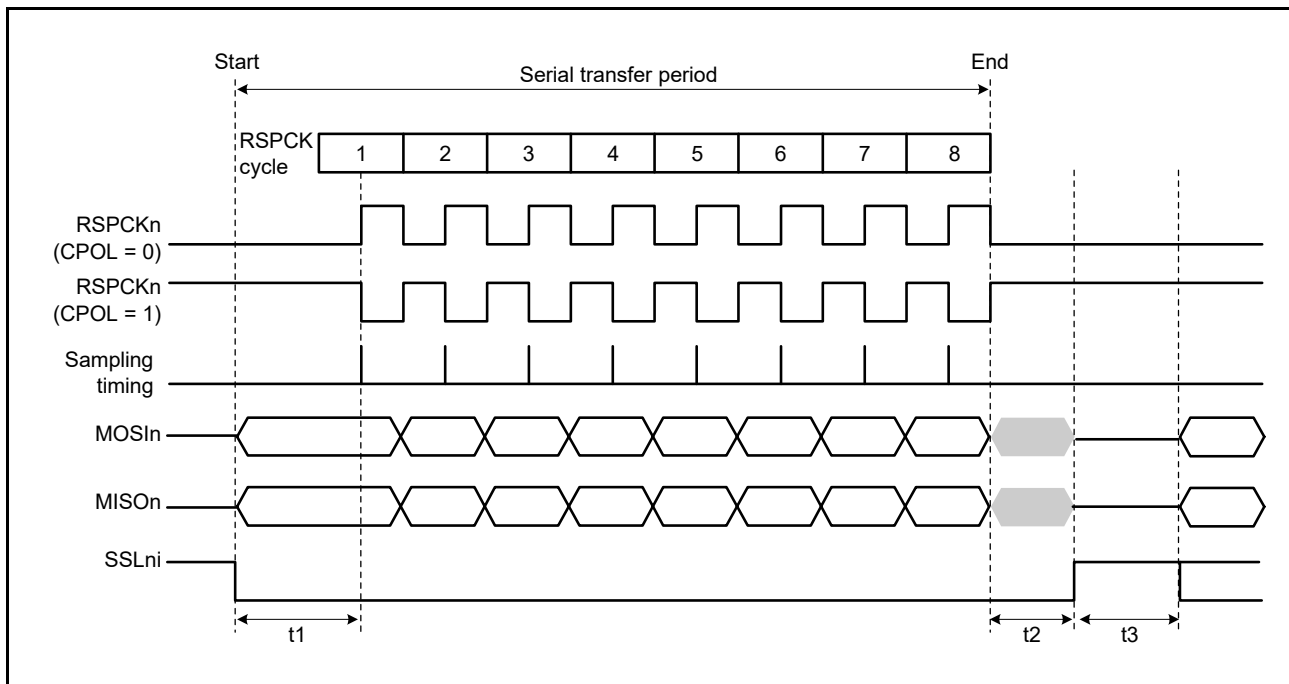
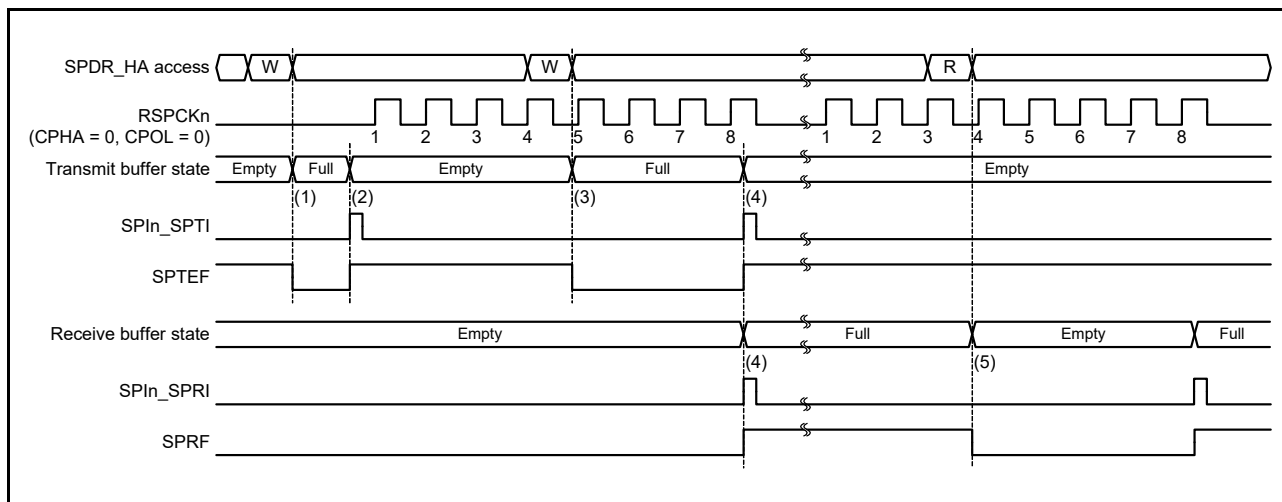
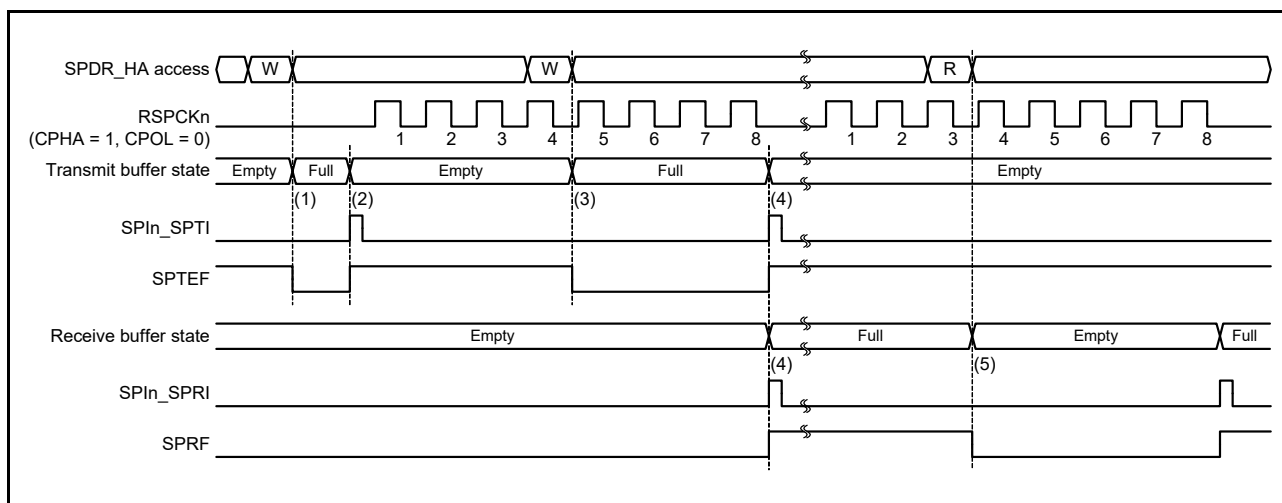

Figure 32.26 SPI transfer format with CPHA = 0
Figure 32.30 Operation example of SPIIn_SPTI and SPIIn_SPRI interrupts when CPHA = 0 and CPOL = 0
Figure 32.31 Operation example of SPIIn_SPTI and SPIIn_SPRI interrupts when CPHA = 1 and CPOL = 0
Figure 32.26 shows an example transfer format for the serial transfer of 8-bit data when SPCMDm.CPHA is 0. Do not perform clock synchronous operation (SPCR.SPMS = 1) when the SPI operates in slave mode (SPCR.MSTR = 0) and the CPHA bit is 0. In Figure 32.26, RSPCKn (CPOL = 0) indicates the RSPCKn signal waveform when SPCMDm.CPOL is 0 and RSPCKn (CPOL = 1) indicates the RSPCKn signal waveform when the CPOL bit is 1. The sampling timing represents the timing at which the SPI fetches serial transfer data into the shift register. The I/O directions of the signals depend on the SPI settings. For details, see section 32.3.2, Controlling the SPI Pins.
Figure 32.30 and Figure 32.31 show operation examples of the transmit buffer empty interrupt (SPIn_SPTI) and the receive buffer full interrupt (SPIn_SPRI). The register accesses shown in these figures indicate the conditions of access to the SPDR_HA register, where W denotes a write cycle, and R a read cycle. In Figure 32.26, the SPI performs an 8-bit serial transfer in which the SPCR.TXMD bit is 0, the SPDCR.SPFC[1:0] bits are 00b, the SPCMDm.CPHA bit is 0, and the SPCMDm.CPOL bit is 0 for SPI0, and in which the SPCR.TXMD bit is 0, the SPCMD0.CPHA bit is 0, and the
The operation of the SPI at timings shown in (1) to (5) in Figure 32.31 is as follows:
- (1) When transmit data is written to the SPDR_HA register with the transmit buffer of SPDR_HA empty and data for the next transfer not set, the SPI writes data to the transmit buffer and clears the SPSR.SPTEF flag to 0.
- (2) If the shift register is empty, the SPI copies data in the transmit buffer to the shift register, generates a transmit buffer empty interrupt request (SPIIn_SPTI), and sets the SPSR.SPTEF flag to 1. How a serial transfer is started depends on the mode of the SPI. For details, see section 32.3.10, SPI Operation, and section 32.3.11, Clock Synchronous Operation.
- (3) When transmit data is written to the SPDR_HA register either by the transmit buffer empty interrupt routine, or by the processing of transmit buffer empty using SPTEF flag, the SPI writes data to the transmit buffer and clears the SPTEF flag to 0. Because the serially transferred data is stored in the shift register, the SPI does not copy the data in the transmit buffer to the shift register.
- (4) When the serial transfer ends with the receive buffer of SPDR_HA empty, the SPI copies the receive data in the shift register to the receive buffer and generates a receive buffer full interrupt request (SPIIn_SPRI), and sets the